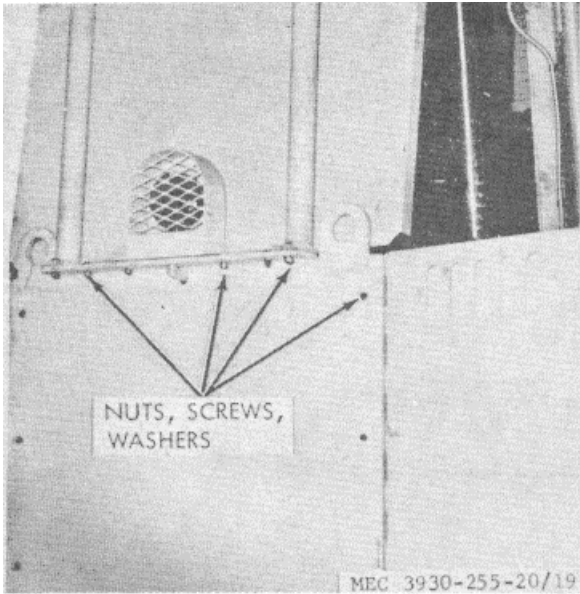

Figure 19. Battery box top cover and overhead guard.
- (1) Remove taillight and taillight guard as an assembly (para 23a(1)).
- (2) Remove screws and nuts (fig. 19) which attach cover hinge to truck, and lift off cover.
a. *Removal.* Pull open side cover to be removed, remove nuts and screws (fig. 19) attaching side cover to truck, and remove cover.
a. *Removal.* Remove screws (fig. 19) at each upright bore of guard, and lift guard from truck.